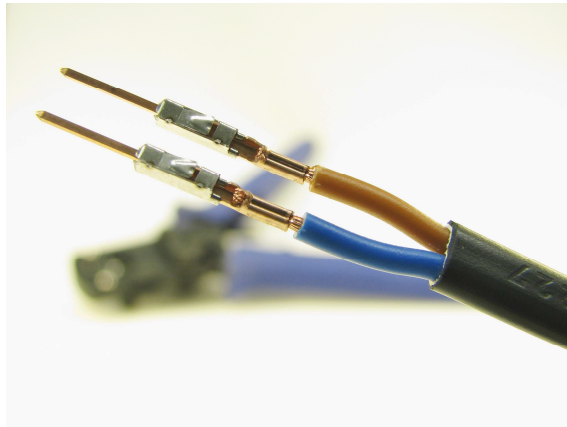

Figure 11
3. *In the end the handle is opened, the contact holder is swivelled slightly out to the front and the wire with the crimped contacts can be removed (see figure 11).*